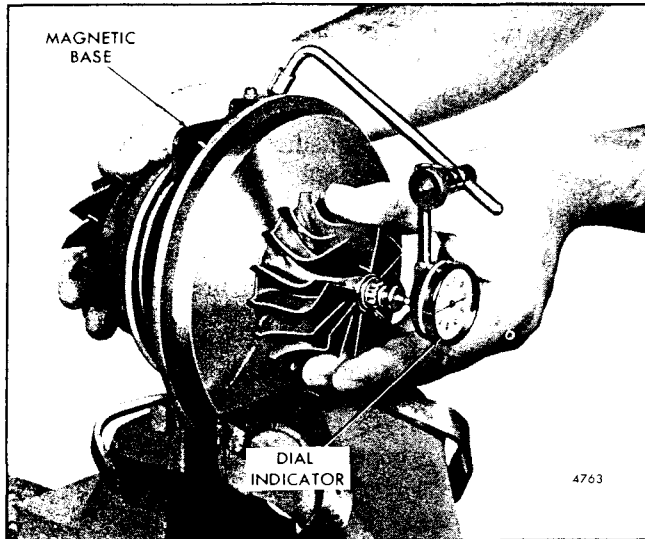
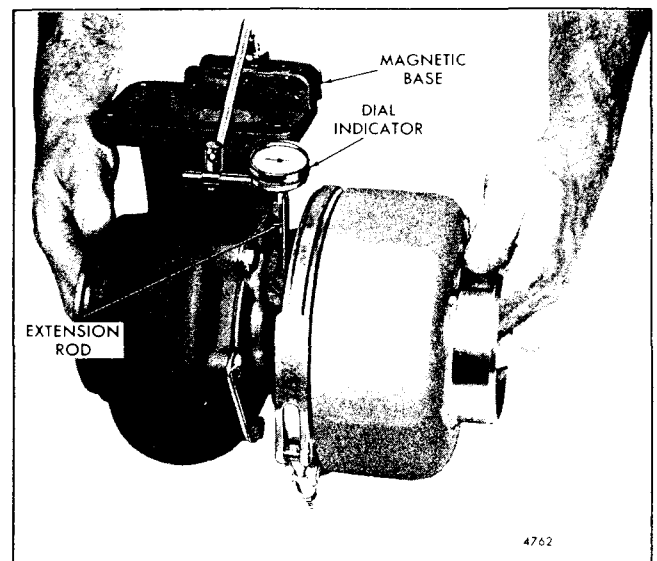

Fig. 7 - Checking Bearing Axial End Play
Fig. 8 - Checking Shaft Radial Movement
- a. Clamp the center housing assembly in a bench vise equipped with soft jaws as shown in Fig. 7.
16. Position the turbine housing (6) against the center housing (26) and secure it in place with four clamps (5), four lockplates (4) and eight bolts (3). Tighten the bolts to 160-190 **lb-in** torque. Bend the lockplate tabs up against the flat on the bolt heads.
17. Position the compressor housing (2) against the center housing (26) and secure it in place with the "V" band coupling (1). Tighten the nut on the coupling to 30-45 **lb-in** torque.
- a. Position the magnetic base J 7872-2 with the swivel adaptor J 7872-3 on the flat surface of the turbine housing inlet flange as shown in Fig. 8.